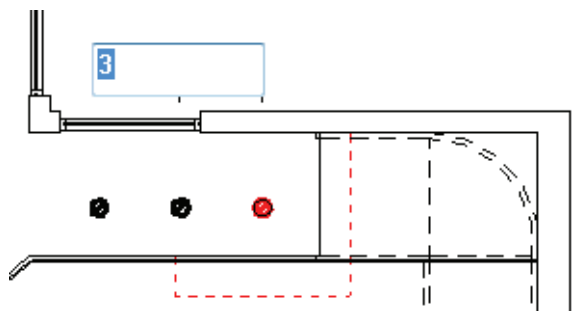

Figure 2–33
- If you have the **Group and Associate** option toggled on, you are prompted again for the number of items, as shown in Figure 2–33.